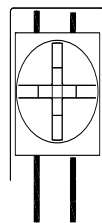

Figure 2
- Break all in-out wire runs on supervised circuits to ensure integrity of circuit supervision as shown in Figure 2. The polarity shown in the wiring diagrams is for operation of the appliances.